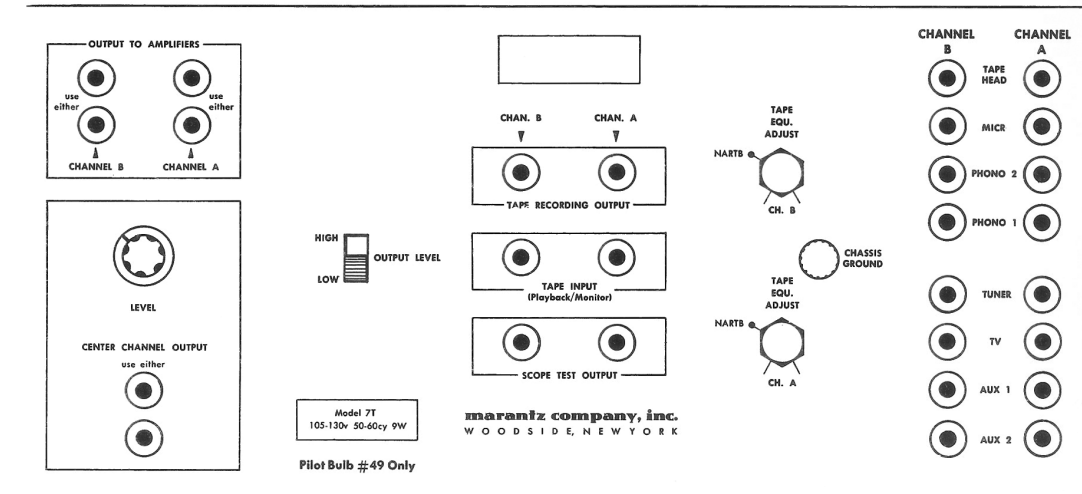

Figure 3. Rear Panel, Partial View
**OUTPUT LEVEL** The slide switch on the rear of the 7T (Fig. 3) permits you to change the level of the signals fed to your stereo power amplifier. Normally this switch should be set to the **HIGH** position. If, however, your loudspeakers have unusually high efficiency, or the input sensitivity of your power amplifier is less than 1/2 volt, random electron noise may become audible, despite the exceptionally low noise level of the model 7T. In this case, the **OUTPUT LEVEL** switch should be set to the **LOW** position.